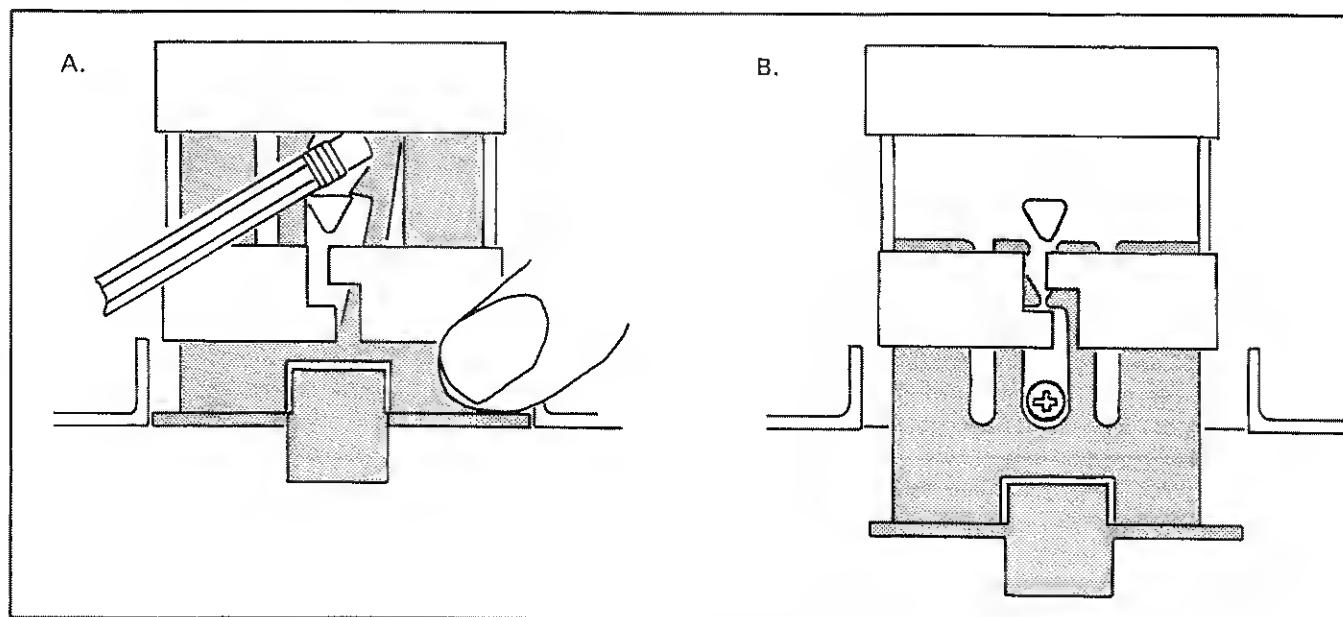

Figure 4-1. Latch Removal
2. On the case bottom, remove the six securing screws. Two of these screws will be found in the middle of the case, under the latches. To access either middle screw, simultaneously pry the two latching rails away from the triangular stop. Pull the latch out far enough to reveal the screws. Refer to Figure 4-1 for an illustrated latch removal procedure.